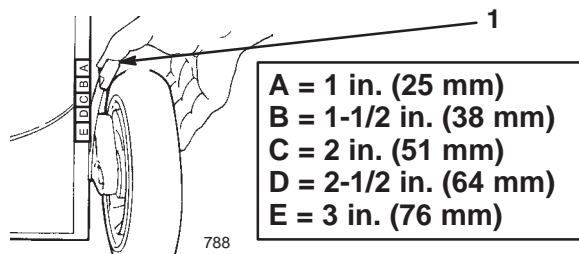

Figure 8
1. To change the cutting height, pull the cutting height lever toward the wheel and move it to the desired position (Fig. 8).